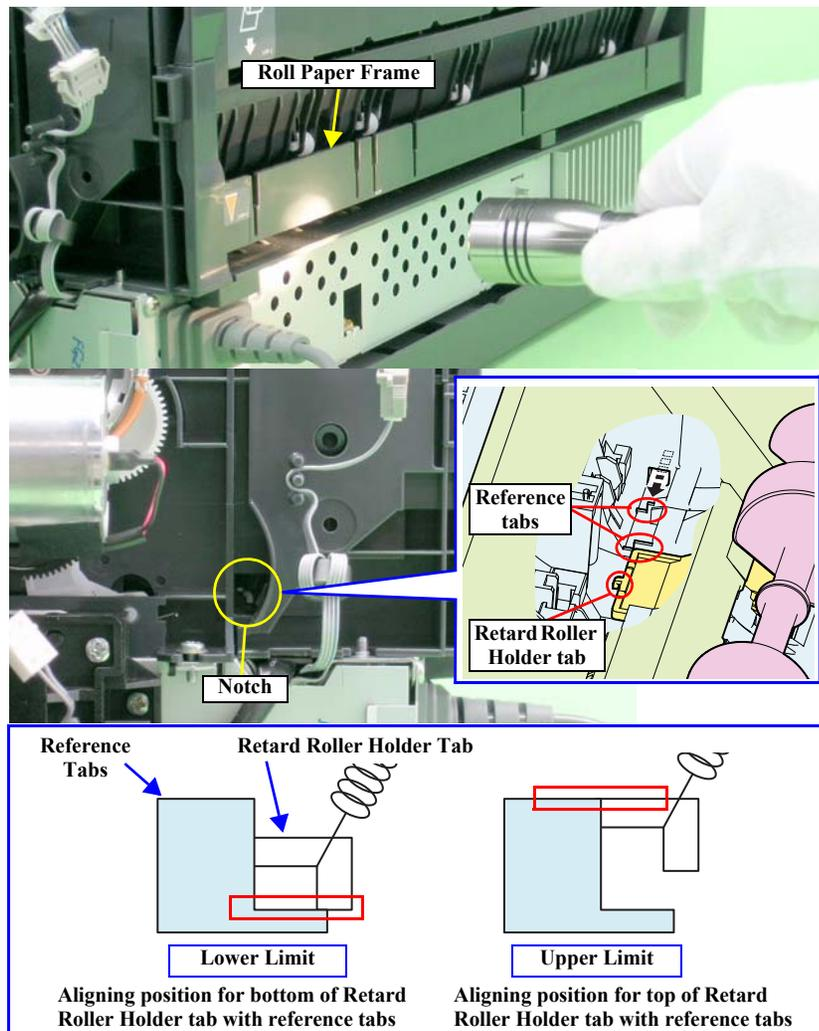

Figure 4-28. Aligning the Position of the Guide Roller LD (0 Digit Side)
- Light the printer's inside through a gap between the Roll Paper Frame and the ASF Assy with a penlight, and look the tab on the Retard Roller Holder at the back of the two reference tabs on the ASF Assy through the notch. After making sure that the two reference tabs are aligned when viewed edge-on, adjust the position of the Retard Roller Holder Tab by pressing the Guide Roller LD (0 digit side) so that it is placed within the range as shown in the simplified diagram in Figure 4-28.